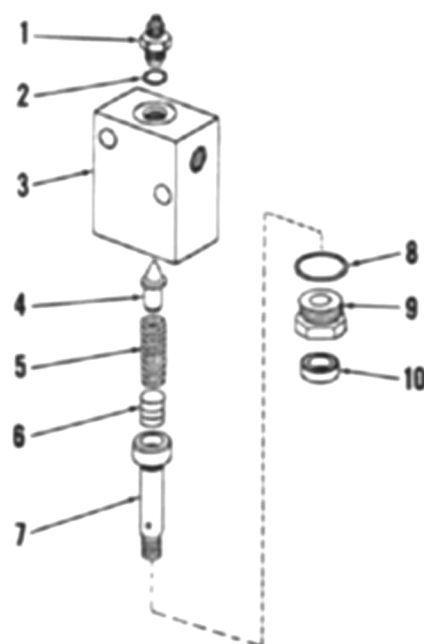

Fig. 132 - Exploded view of the Foot-N-Inch valve assembly.
107. FOOT-N-INCH VALVE. To disassemble the Foot-N-Inch valve, remove guide (9 - Fig. 132) with "O" ring (8) and oil seal (10). Withdraw stem (7), shims (6), spring (5) and poppet (4). Remove valve seat (1) with "O" ring (2).